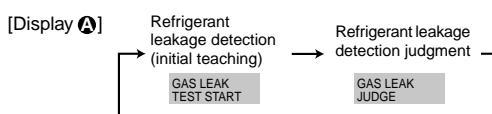

Fig. 8-2
- ① Press **TEST** button for more than three seconds to switch to the maintenance mode.
- ② Press **CLOCK** button and select the [GAS LEAK TEST START] (Fig. 8-2)